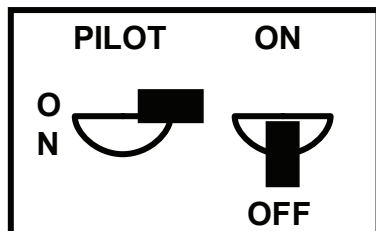

Fig. 9
5. Make sure toggle switch is in the ‘‘OFF’’ position (Fig. 9)
6. Turn control handle counterclockwise ← to the ‘‘PILOT’’ position (Fig. 9)
8. Once the pilot lights, continue to depress the control handle for one (1) minute.
3. Once the pilot lights, continue to depress the control handle for one (1) minute
5. If the pilot does not remain lit, rotate control handle to ‘‘OFF’’ position (Fig. 9)
6. Wait five (5) minutes and repeat above steps
11. Place toggle switch in the ‘‘ON’’ position (Fig. 9)